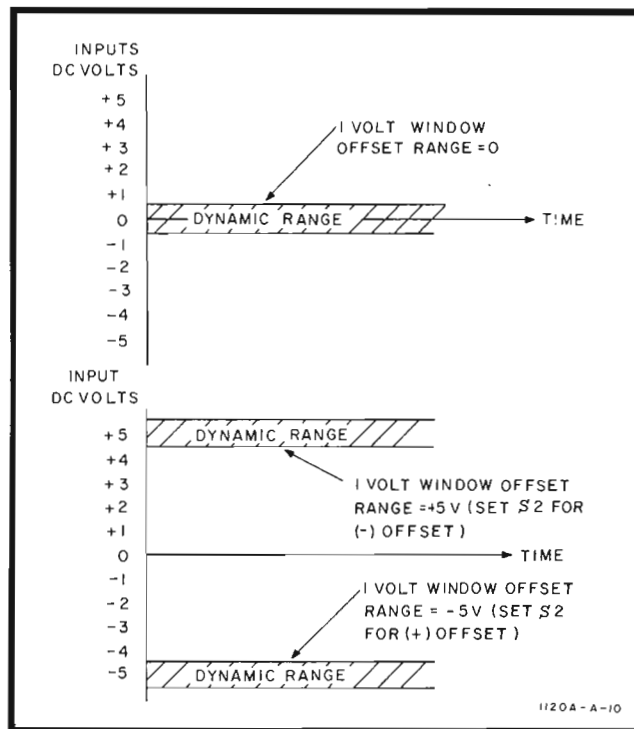

Figure 4. Offset Operating Range
16. The dynamic range of the Model 1120A is ± 0.5 volt (without voltage dividers). When using the offset circuit, the dynamic range becomes a 1-volt window in which the input signal is observed. The offset range is from -5 volts to $+5$ volts. Figure 4 shows the 1 volt window in relation to the offset range.